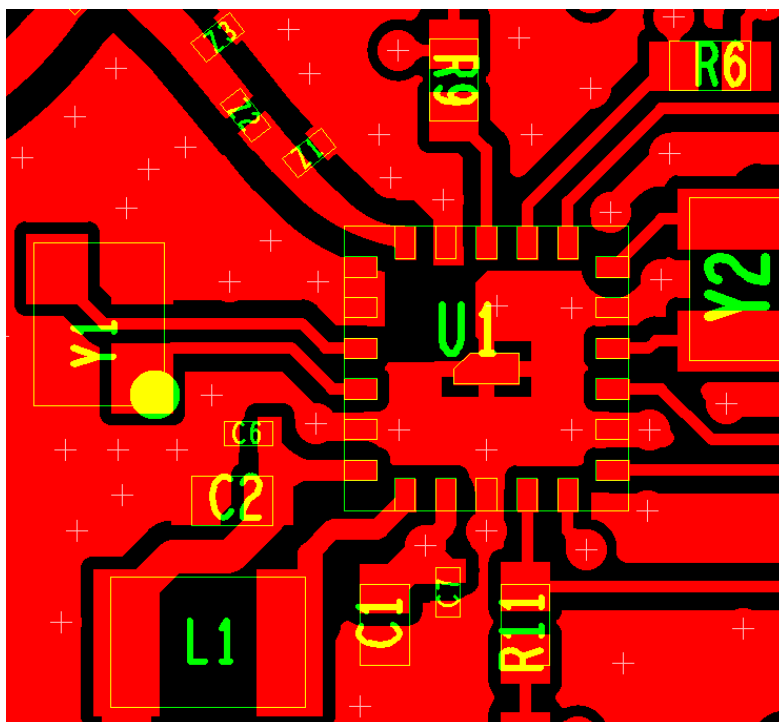

Figure 20. PCB placement and routing – top layer
- Connect pin 19 to GND with vias as shown in Figure 20.
- Short 20, 21, 23 GND pins together and use two GND vias, as shown in Figure 20.